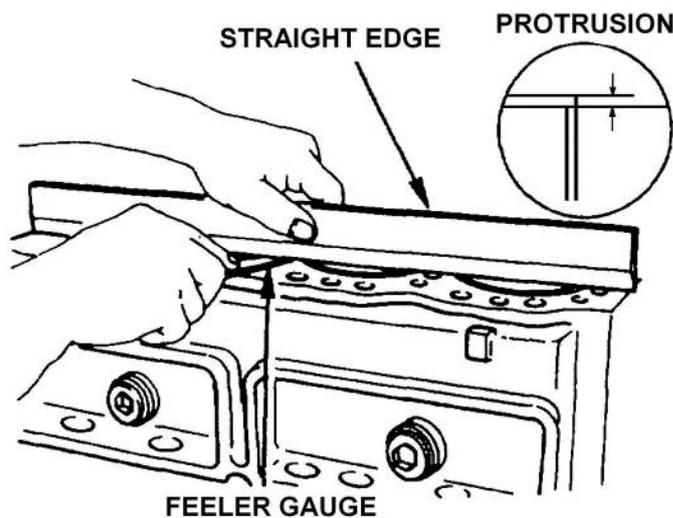

Figure 38 Checking the Cylinder Liner Protrusion
- b. After installing the cylinder liners, verify that each liner is protruding 0.03 to 0.10 mm (0.0012 to 0.0039 in) above the engine block deck and that the variation of the amount of protrusion between the cylinder liners is less than 0.03 mm (0.0012 in). Use a straight edge and a feeler gauge to check the amount of protrusion (Figure 38).